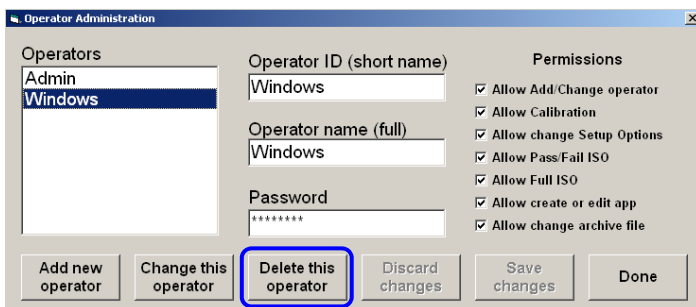

Figure 51: Select "Windows" and then click "Delete this operator"
20. Select **Windows** from the Operator list and then click the **Delete this operator** button (Figure 51).